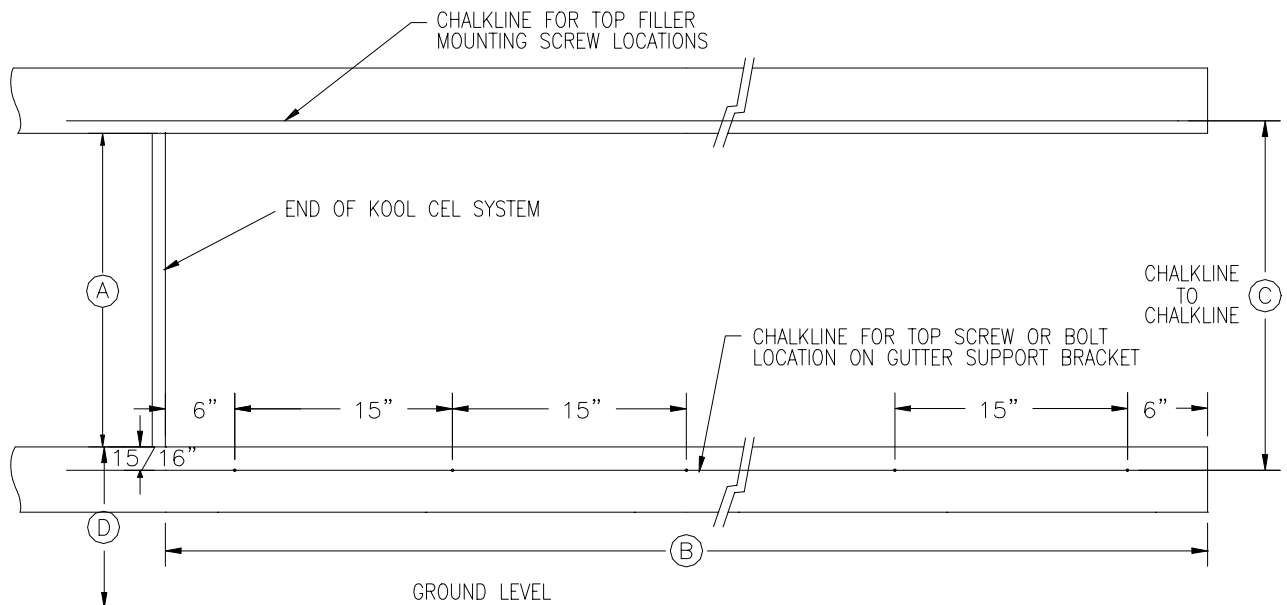
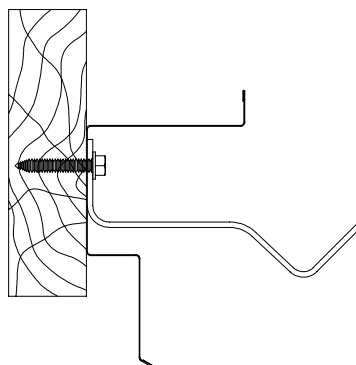

Figure 3
Figure 16
- A) To locate the gutter support bracket position on the bottom stringer for the continuous gutter, refer to chalk line shown in Figure 3. The chalk line should be $15/16''$ down from the top of the bottom stringer and run its full length. The chalk line will be used to locate the top hole position of the brackets. Hole spacing is shown in Figure 3 and Figure 4.
1. Beginning at the pump end of the system, locate the position of the end of the system (end of system is end of pad support in gutter) and install the top cover support sections and the pipe hangers to the top stringer by lining up the top holes of the top cover support sections with the chalkline (refer to Figure 3) on the top stringer. Attach the hangers and the top cover support sections to the stringers with $\frac{1}{4}$ " x $1\frac{1}{2}$ " hex head screws as shown in Figure 16.